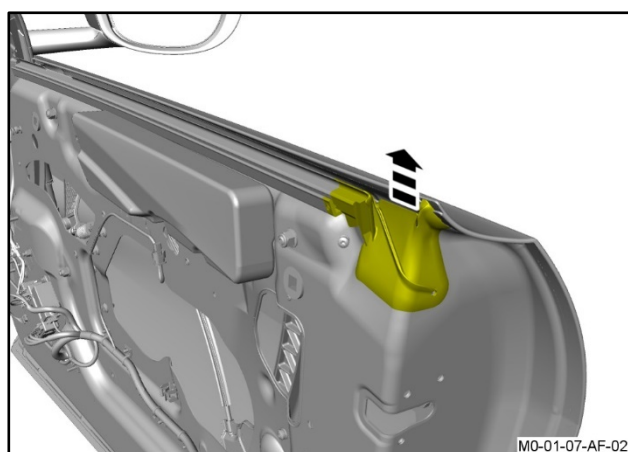

Figure 8
17. Release the end moulding for the inner waist seal from the door (refer to Figure 8).